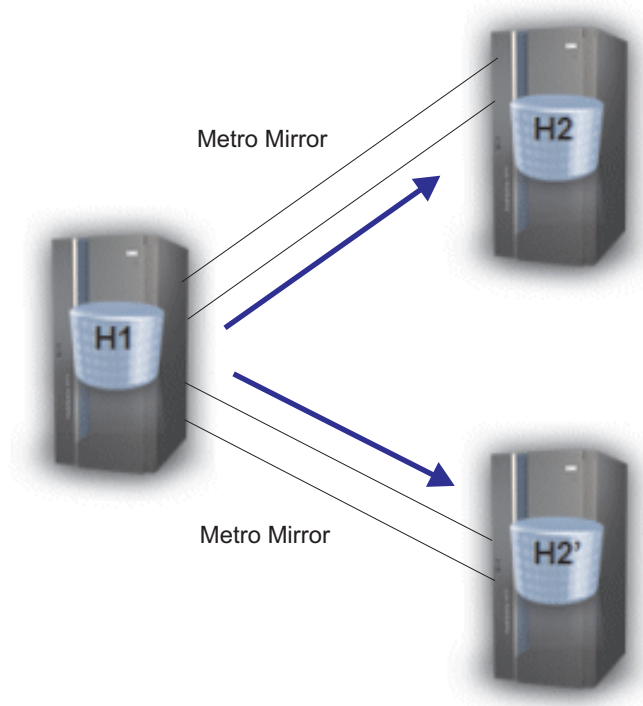

Figure 30. Configuration after Adding H2'
3. Wait for H1 -> H2' to reach full duplex. Figure 30 shows the result.